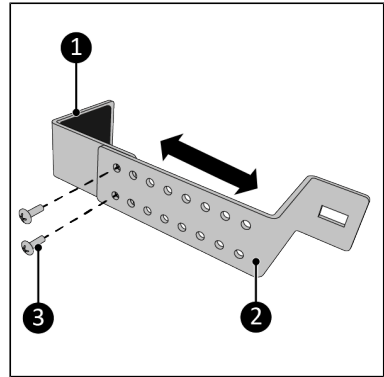

Figure 59.
3. Screw the top part (Figure 59, pos. 1) and the bottom part (Figure 59, pos. 2) together using the two M5 x 10 mm screws (Figure 59, pos. 3). Make sure the width is slightly larger than the width of the window frame.